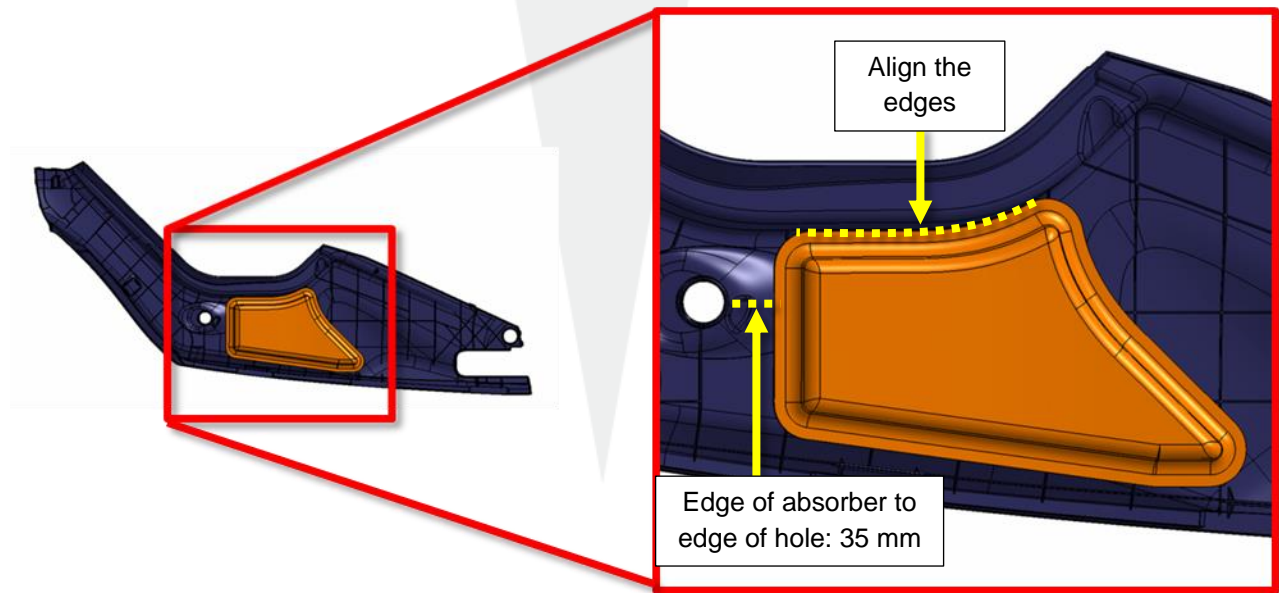

Figure 5 (acoustic absorber highlighted)
7. Remove the backing from the new RH side apron acoustic absorber and press it onto the apron. Use the guidelines in Figure 5 to accurately align the absorber.